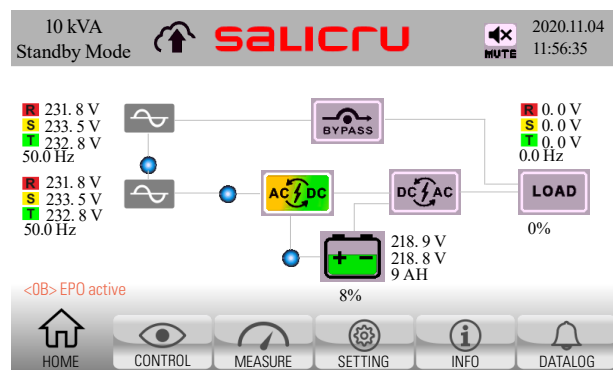

Fig. 58. Main screen with EPO emergency stop activated. There is no output voltage.
2. A new alarm, <OB> "EPO active", appears on the control panel, and the unit switches automatically to standby mode (Fig. 58).